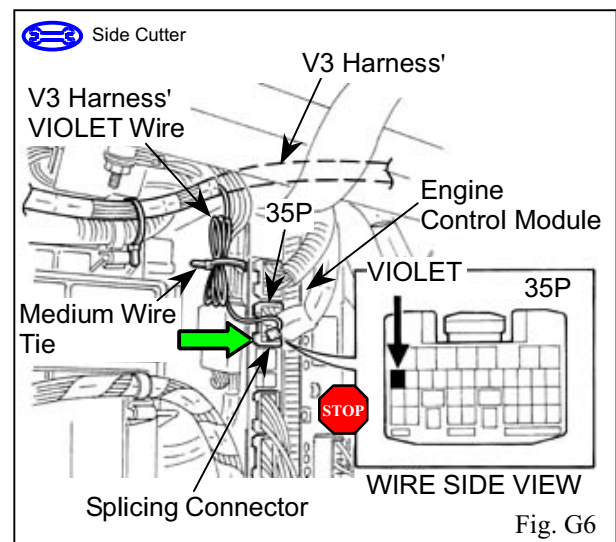

Fig. G6
10. Locate the wire in the second row from the top, first space from the left, and attach the V3 harness' VIOLET wire with one splicing connector. (Fig. G6)
11. Reconnect the 35P connector, and then secure the excess VIOLET wire to the vehicle's harness with one medium wire tie. (Fig. G6)